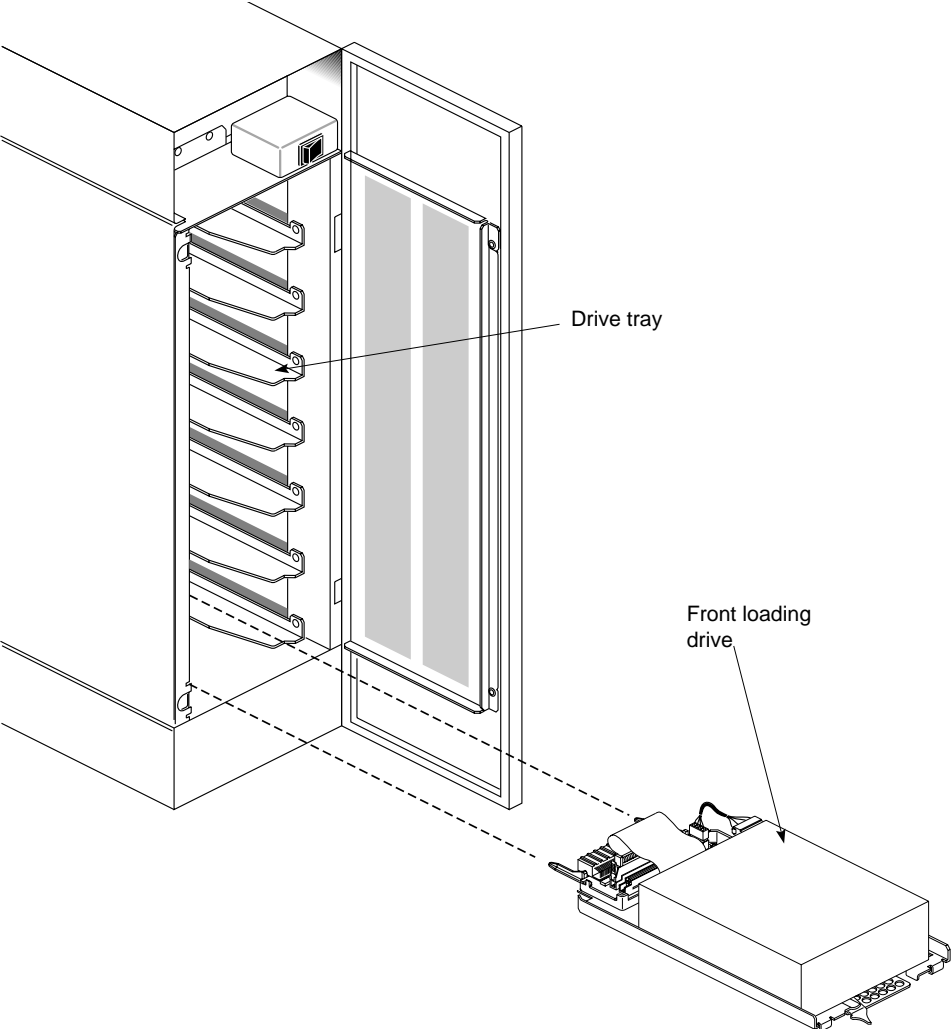

Figure 2-3 Installing (or Removing) a Drive in the Vault L Storage Box
3. To install a drive, orient the front-loading drive relative to the Vault L so that the drive is facing up. See Figure 2-3.